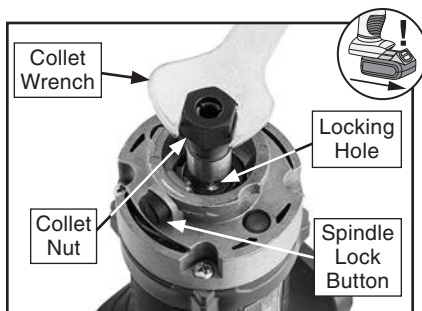

Figure 12. Spindle collar components.
3. Align spindle lock button pin with locking hole in spindle shaft and press spindle lock button (see **Figure 12**).
4. While pressing lock button, use collet wrench to loosen collet nut (see **Figure 12**).